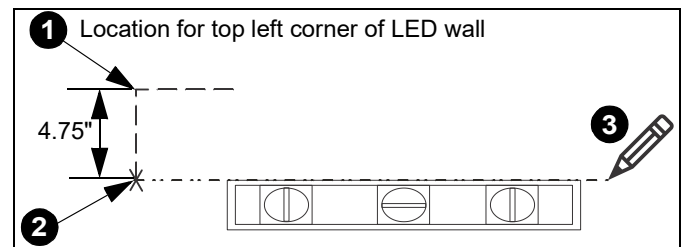
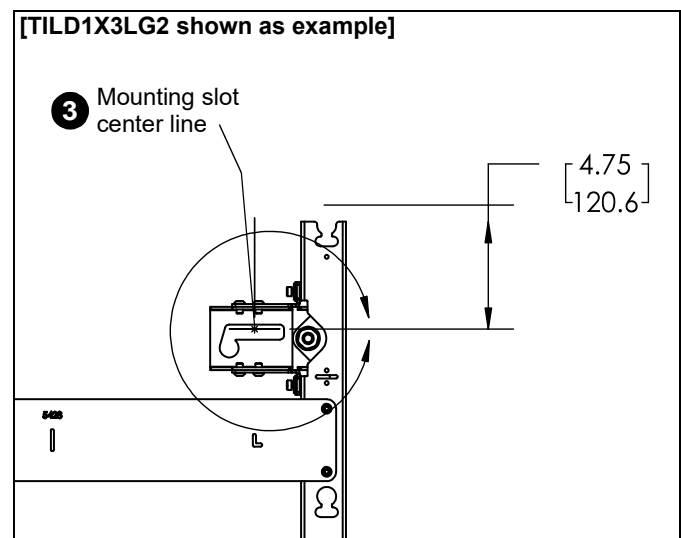

Figure 4
Figure 5
IMPORTANT ! : The top of the LED screen is 4.75" above the center line of the mounting lags in the upper mounting slots. (See Figure 4)
1. Determine location for the **top left** corner of the LED wall. (See Figure 4)
2. Make a mark 4.75" below the planned top left corner of the LED wall. (See Figure 4)
NOTE: This line will indicate the center line for the location of the mounting lags in the mounting slots for the top mount(s) in the video wall. The oversize mounting slots will allow some upward adjustment as needed. (See Figure 4) and (See Figure 5)